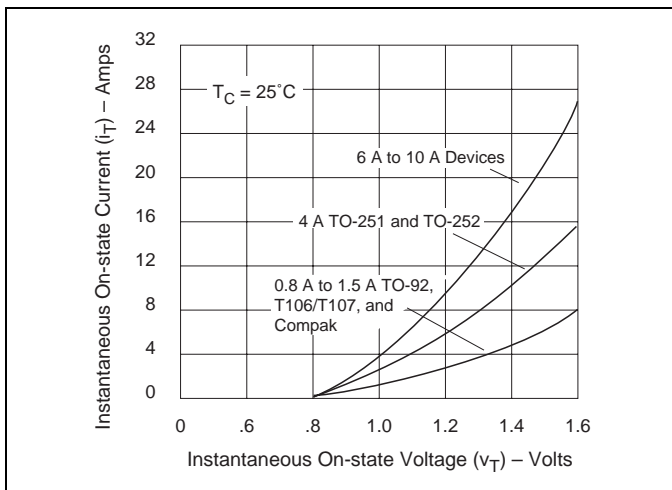

Figure E5.11 Instantaneous On-state Current versus On-state Voltage (Typical)
- (3) See Figure E5.11 for instantaneous on-state current (i_T) versus on-state voltage (v_T) TYP.